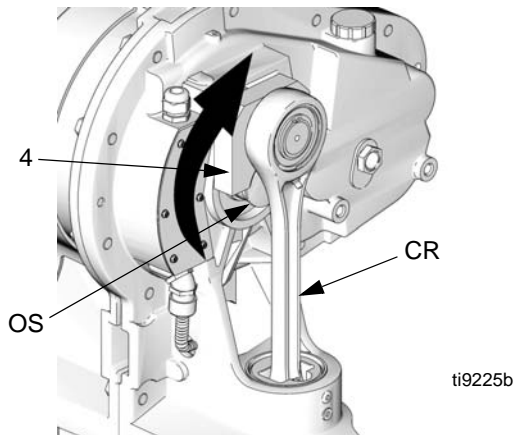

FIG. 7. Rotate Crank Arm
- f. See FIG. 7. Rotate the crank arm (4) to allow it to be removed from the output shaft (OS).